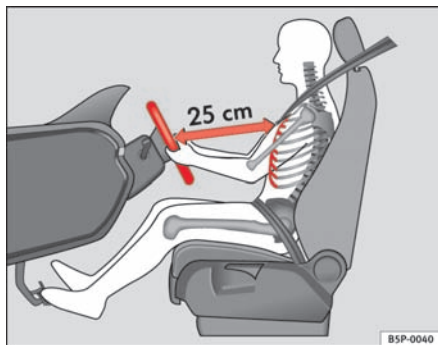

Fig. 1 The proper distance between driver and steering wheel
⇒ fig. 1.
- Adjust the driver's seat so that there is at least 25 cm distance between the centre of the chest and the centre of the steering wheel ⇒ **page 9, fig. 1**. If you are sitting nearer than 25 cm, the airbag system cannot protect you properly.